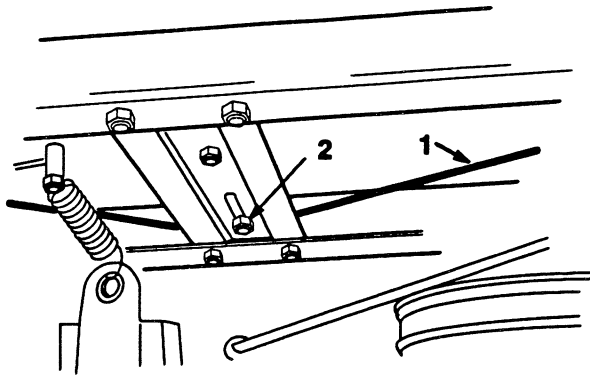

Figure 10
2. Check the cable tension. Cable should be taut and have 1/2 inch movement with slight pressure applied (Fig. 10).
3. To adjust the cable tension loosen the front cable guide, located on tractor brace above deck pulley. Slide guide sideways as required for proper tension (Fig. 10).